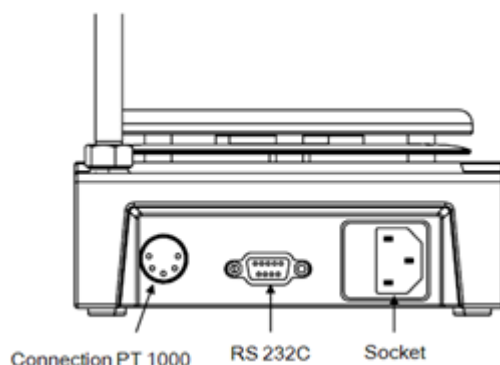

Figure 6
- The functions of the interface lines between laboratory instrument and automation system are selected from the specified signals of the EIA-standard RS232C, corresponding with DIN66020 Part 1. The allotment of the bushing can be taken from Figure 6